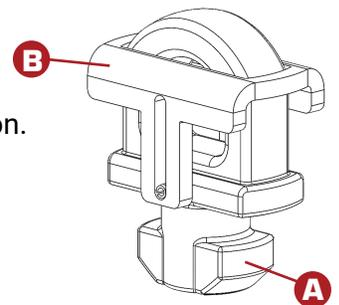

Figure 1. Unlocked position
**STEP 4:** Insert pucks. Fully insert puck body (A) into the slot in the bed of the truck. The locking member (B) will automatically lift up into an unlocked position. See Figure 1.